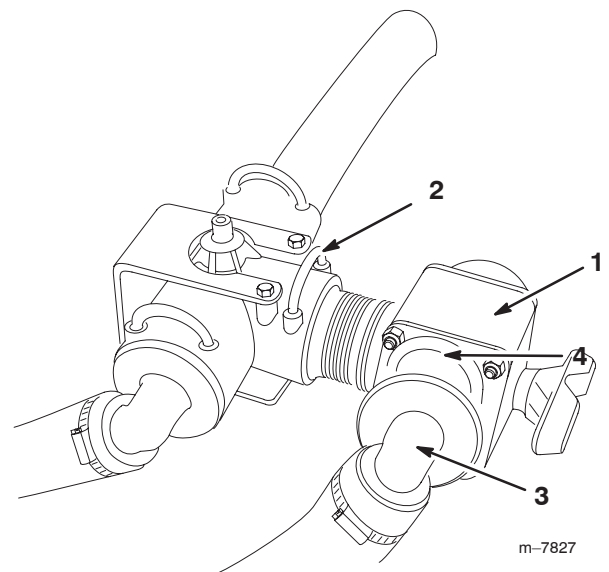

Figure 9
4. Install the new control valve into the open port on the supply tee and secure it with a new retainer (Fig. 9).
5. Connect the boom hose you disconnected in step 1 to the open port on the control valve and secure it with the retainer you removed in step 1 (Fig. 9).